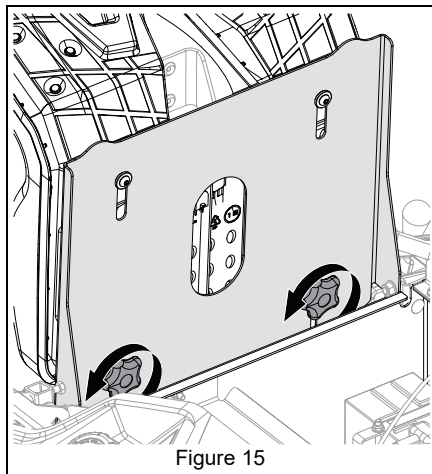

Figure 15
2. Loosen the two wing knobs located toward the front of the seat plate. See Figure 15.